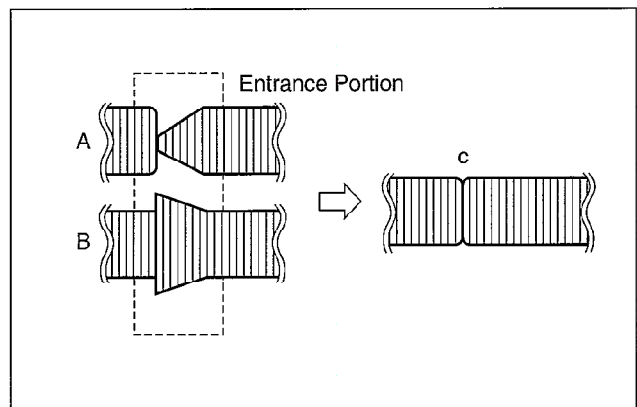

Fig. M7
(2) Playback the Alignment Tape.
(3) If the RF envelope appears like example "A" or "B" in Fig. M7, then adjustment of the tape guide post (P2: Entrance) is necessary.
(4) Adjust the tape guide post (P2) with the post adjustment screwdriver so that the RF envelope waveform at the entrance portion becomes flat as shown in Fig. M7 "C".